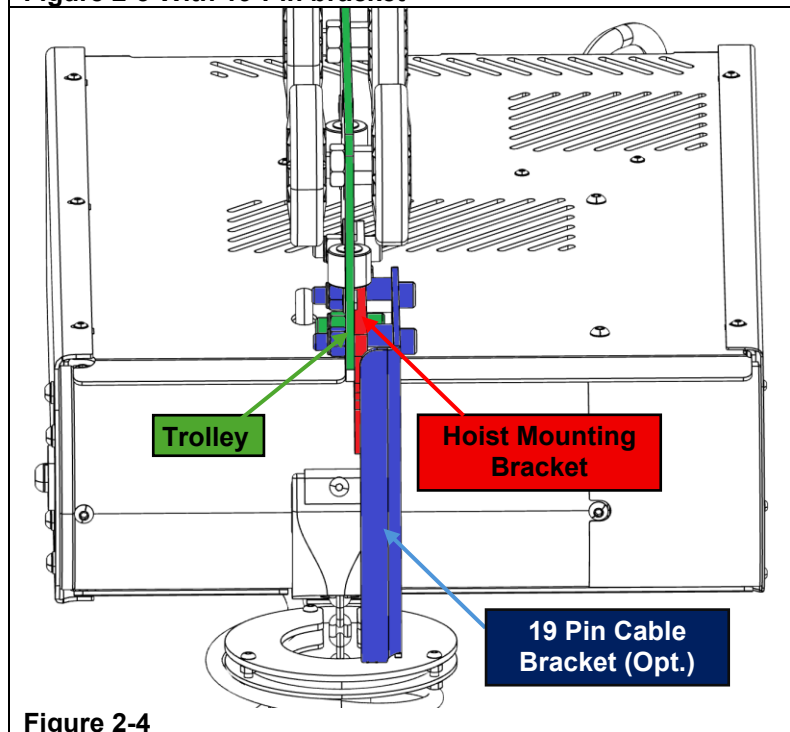

Figure 2-4
- 1) Attach the trolley to the Left side of the mounting bracket on top of the Servo Hoist. (See Figure 2-4)
- 3) Attach the coil cable bracket to the right side of the mounting bracket on top of the Servo Hoist. There are (2) two included spacers that the bracket screws must pass through. (See Figure 2-4)
- 4) Insert (2) ½-13x2 ½" socket head cap screws (SHCS) through the bracket and spacers. Use the (2) included ½" Nylock nuts to secure the screws and tighten. This setup allows the cable bracket to be removed independent of the trolley.